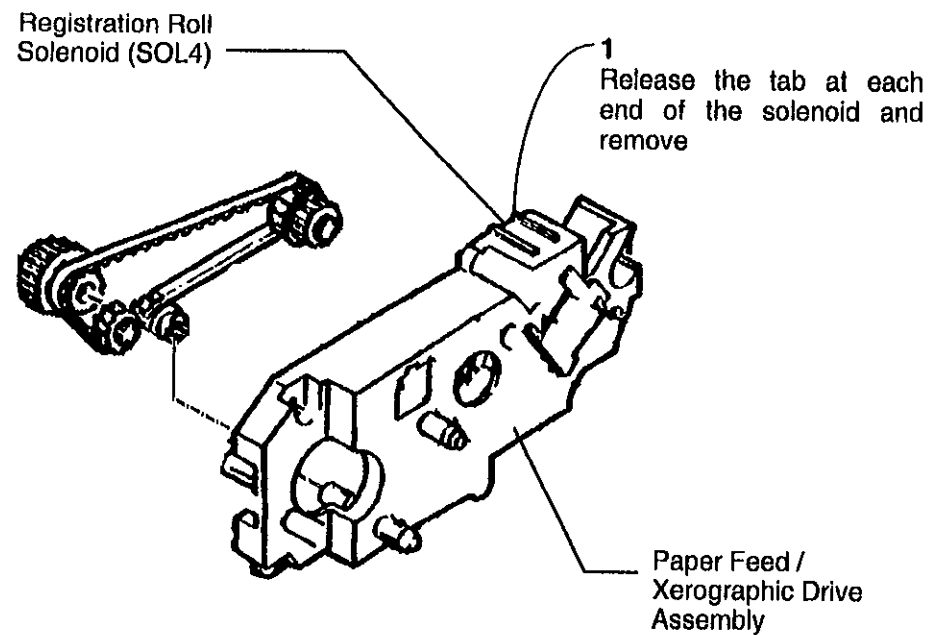

Figure 1. Removing the Registration Roll Solenoid (SOL4).
- 2 (Figure 1) The registration roll solenoid (SOL4) is easily removed by releasing the two tabs on the back side of the drive assembly